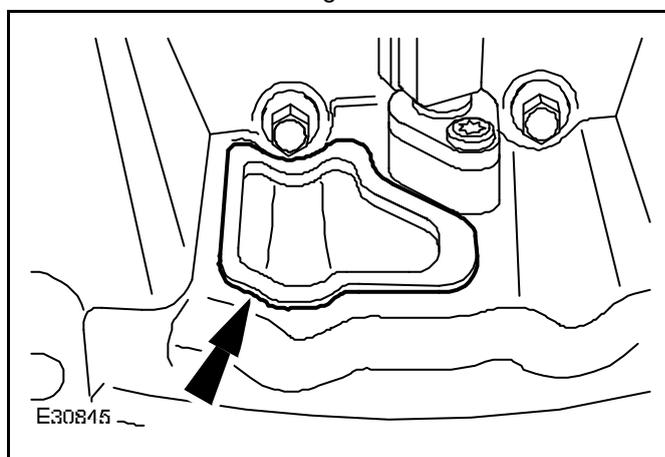

Fig. 12
- 22 Install the rubber access cover (see Fig. 12).